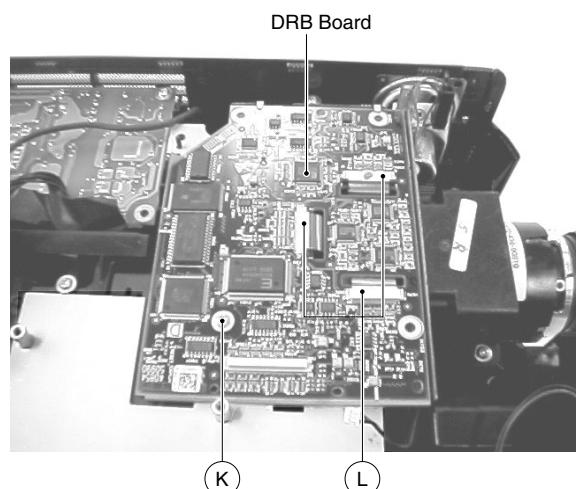

Fig. 8
2. Remove screw "K" and connectors "L" (Fig. 8). Now the DRB (Drive Boards) can be removed.